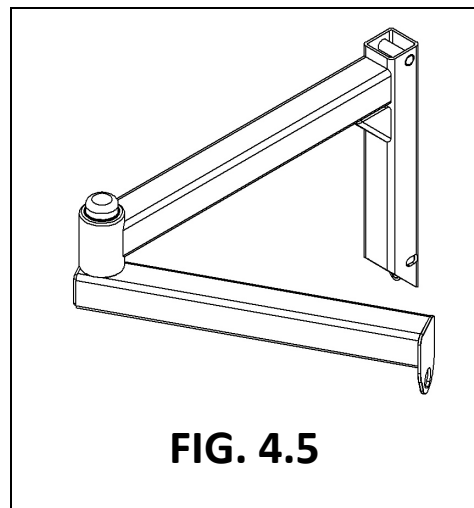

FIG. 4.5
4.2.1. Carefully remove the articulating arm ('arm') (FIG. 4.5) from its shipping box.